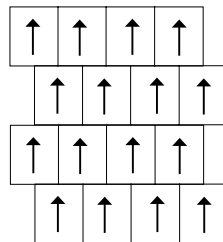

Figure 2
*Brick Lay* with all tiles laid in the same direction and offset half a tile to the side (see figure 2). This will result in a more uniform pattern.